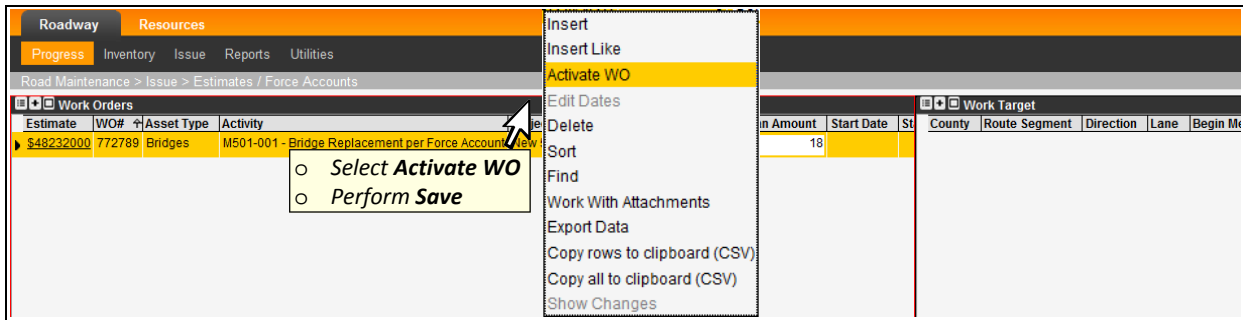

Figure 5-22. Issue > Estimates / Force Accounts – Work Orders Pane (Activate WO)
6. Select the \$ symbol in the **Estimate** field of the pending Work Order, as shown in Figure 5-22. This opens an Estimated Cost dialog box, as shown (Figure 5-22).
1. Navigate to the Road Maintenance > Issue > Estimates / Force Accounts window (Figure 5-22).
3. Perform an **Activate WO** function (Figure 5-22), to activate the Work Order.